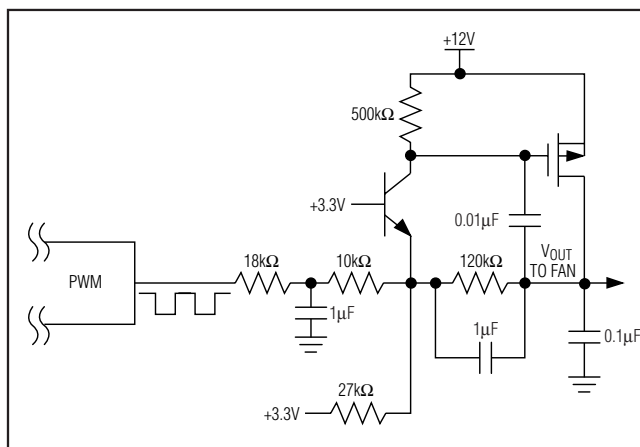

Figure 5. Driving a Fan with a PWM-to-DC Circuit
- 2) PWM\_ is converted (using an external circuit) into a DC voltage that is proportional to duty cycle. This duty-cycle-controlled voltage becomes the power supply for the fan. This approach is less efficient than (1), but can result in quieter fan operation. Figure 5 shows an example of a circuit that converts the PWM signal to a DC voltage. Because this circuit
brushless DC motor has enough time to operate. When driving a fan with a PWM-to-DC circuit as shown in Figure 5, the highest available frequency (35kHz) should be used to minimize the size of the filter capacitors. When using a fan with a PWM control input, the frequency normally should be high as well, although some fans have PWM inputs that accept low-frequency drive.